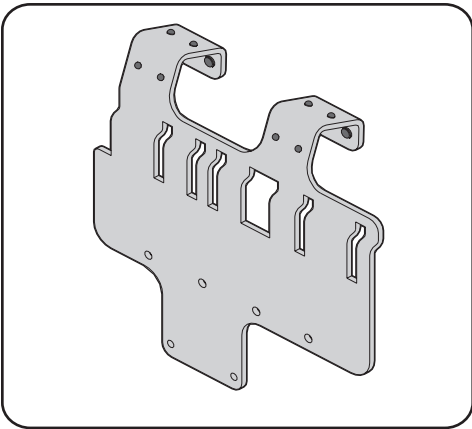

Figure 4-1
- Install 12 rubber pads (735-05938) into adapter bracket (789-02518) using the mounting holes shown in Figure 4-1.